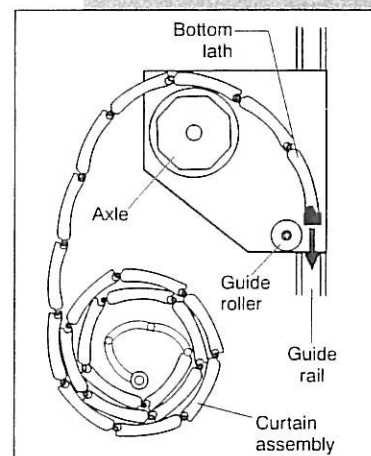

Fig 17
- 6.3.3 Feed the bottom lath over the top of the axle and down between the guide rails (see Fig 17) taking care not to scuff the curtain assembly. Proceed until the full curtain has been fed over the axle and the bottom lath reaches the floor.